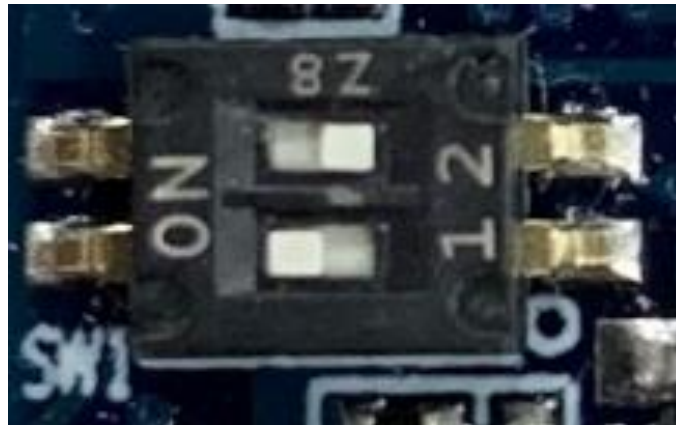

Figure 3.8 Default Setting of System Setting DIP Switch (SW1)
**Table 3.5** provides functions of the DIP switch and **Figure 3.8** indicates a default terminal state.